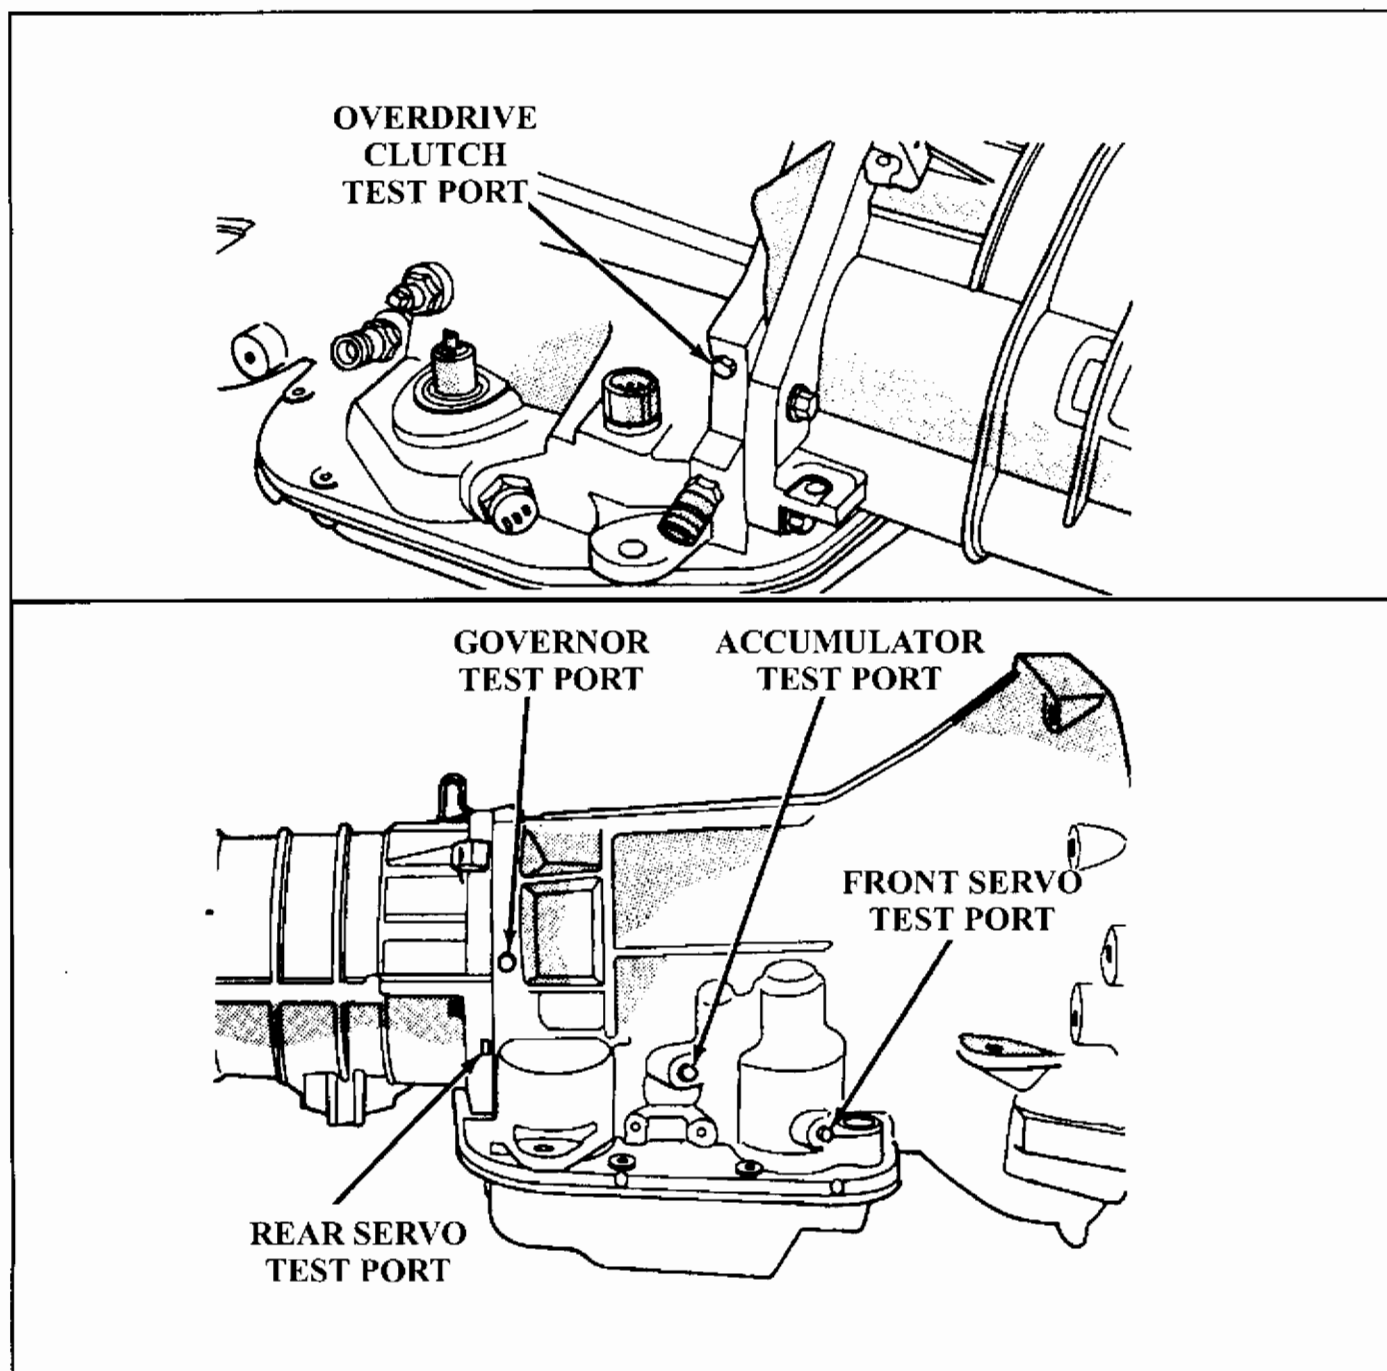

Figure 5
- CORRECTION:** If the band is destroyed the unit will obviously need to be removed for service. During the transmission repair procedure, disassemble the valve body and carefully flat sand the channel plate to ensure that the channel plate will mate flat to the spacer plate. When assembling the valve body, there are two holes that are to be used to properly align the spacer plate to the channel plate as seen in Figures 2 and 3. Place the spacer plate onto the channel plate and install the two bolts one in each alignment hole by hand. Then put the tension plate in place and tighten to 35 inch pounds to secure the spacer plate to the channel plate (See Figure 4). Remove the two bolts used to align the plate and re-use the same bolts to align the valve body and torque all the attaching bolts to 35 inch pounds. After the unit has been repaired and installed into the vehicle, attach a pressure gauge to the low/reverse pressure port (See Figure 5) and ensure that 0 psi is present while in third and forth gear.